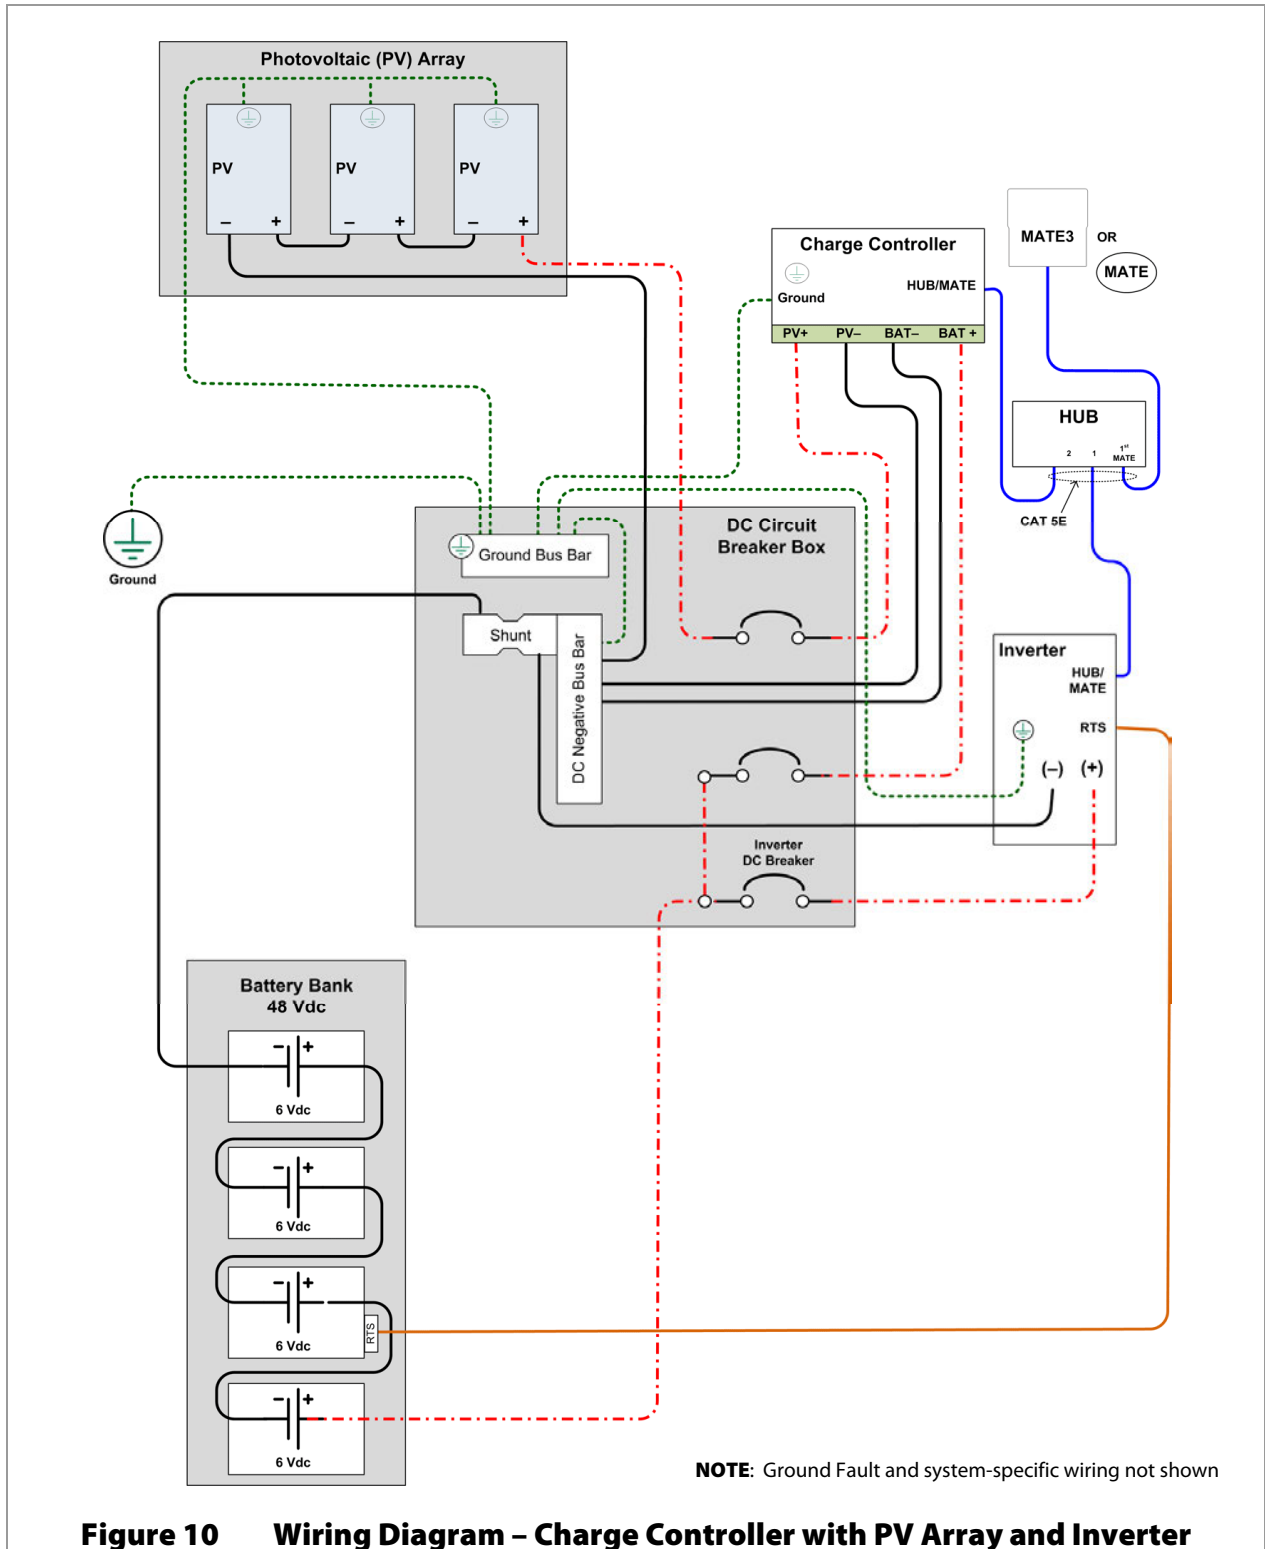
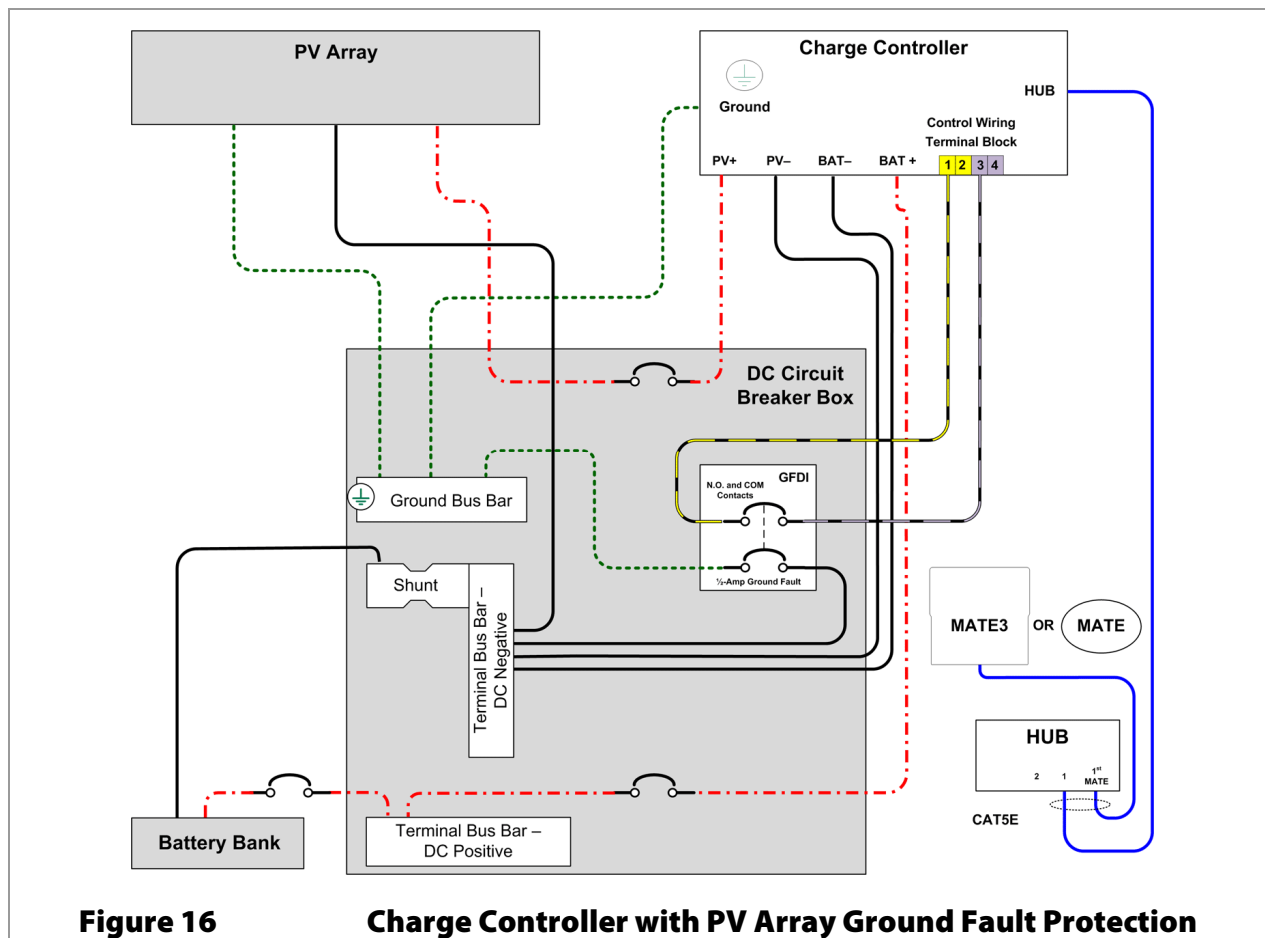
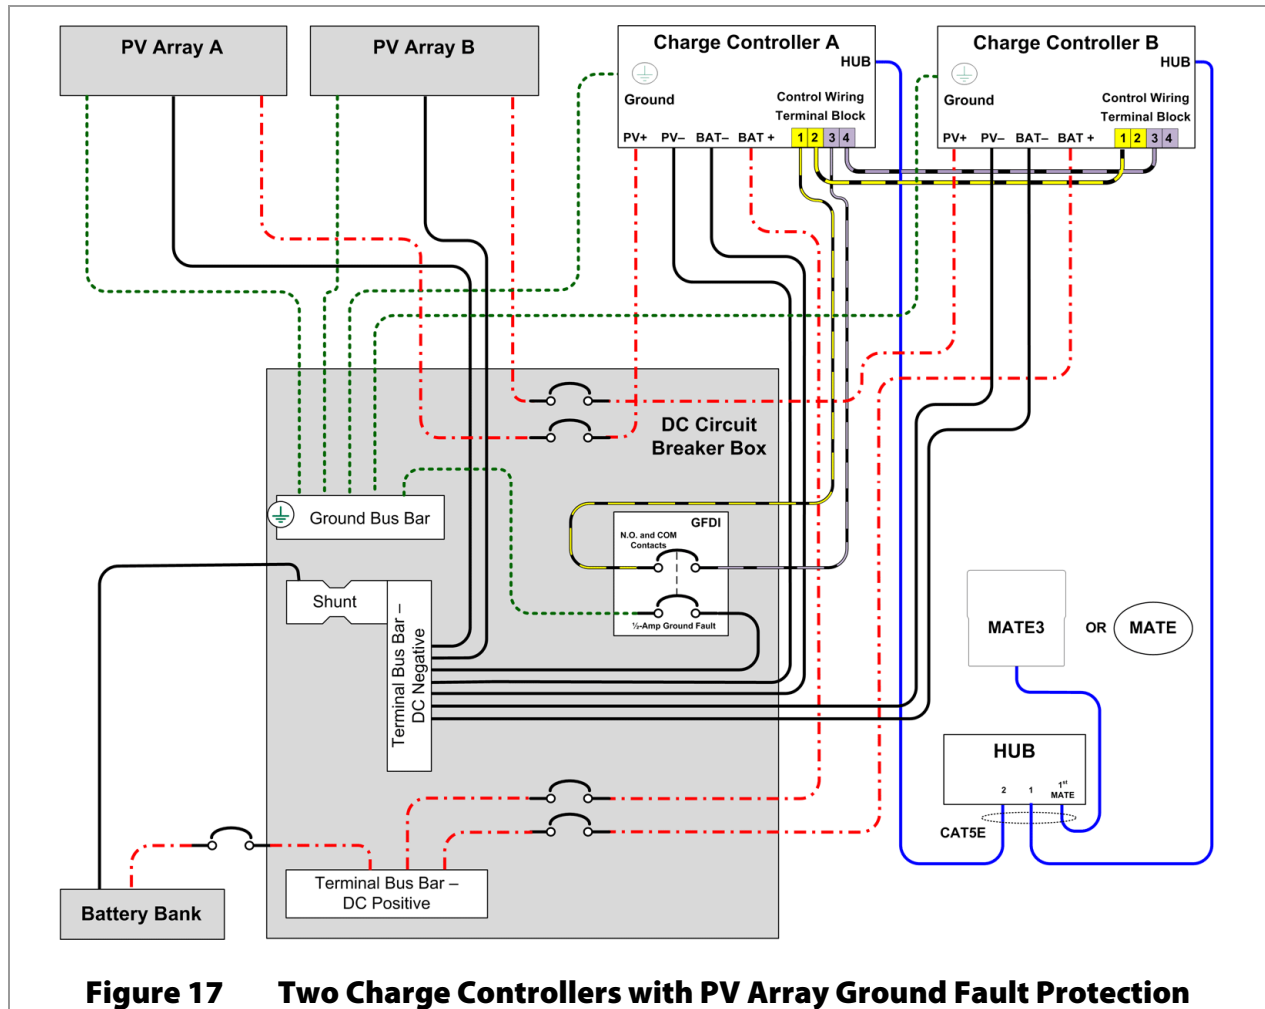

Figure 10 Wiring Diagram - Charge Controller with PV Array and Inverter
Figure 16 Charge Controller with PV Array Ground Fault Protection
Figure 17 Two Charge Controllers with PV Array Ground Fault Protection
See Figure 8, Figure 10, Figure 16, and Figure 17 for sample wiring diagrams.
The External Fault terminals are used to make connections to the OutBack Ground Fault Detector/Interruptor (GFDI) product. A single wire is run from one of the yellow terminals (① or ②). A second single wire is run from one of the purple terminals (③ or ④). Terminals ① and ③ are the most commonly used. These wires are connected to a normally-open set of contacts on the OutBack GFDI. Figure 16 and Figure 17 show terminals ① to ④ without the rest of the control terminal block.
In the first controller, terminals ② and ④ should have a parallel set of wires which connect to terminals ① and ③ on the second controller. This allows the second controller to sense the same conditions as the first so that it will react accordingly. If a third controller is present, its terminals ① and ③ should have wires connecting to terminals ② and ④ on the second controller, and so on. (See Figure 17.) Additional controllers can be added as needed.
In Figure 16, a wire has been run from terminal ① to one of the dedicated GFDI terminals. A wire has also been run from terminal ③ to the other side of the GFDI. As long as the GFDI remains closed, that pole of the GFDI will read as electrically continuous to the External Fault circuit.
In Figure 17, a wire has been run from terminal ① on Charge Controller A to one of the dedicated GFDI terminals. A wire has also been run from terminal ③ to the other side of the GFDI.